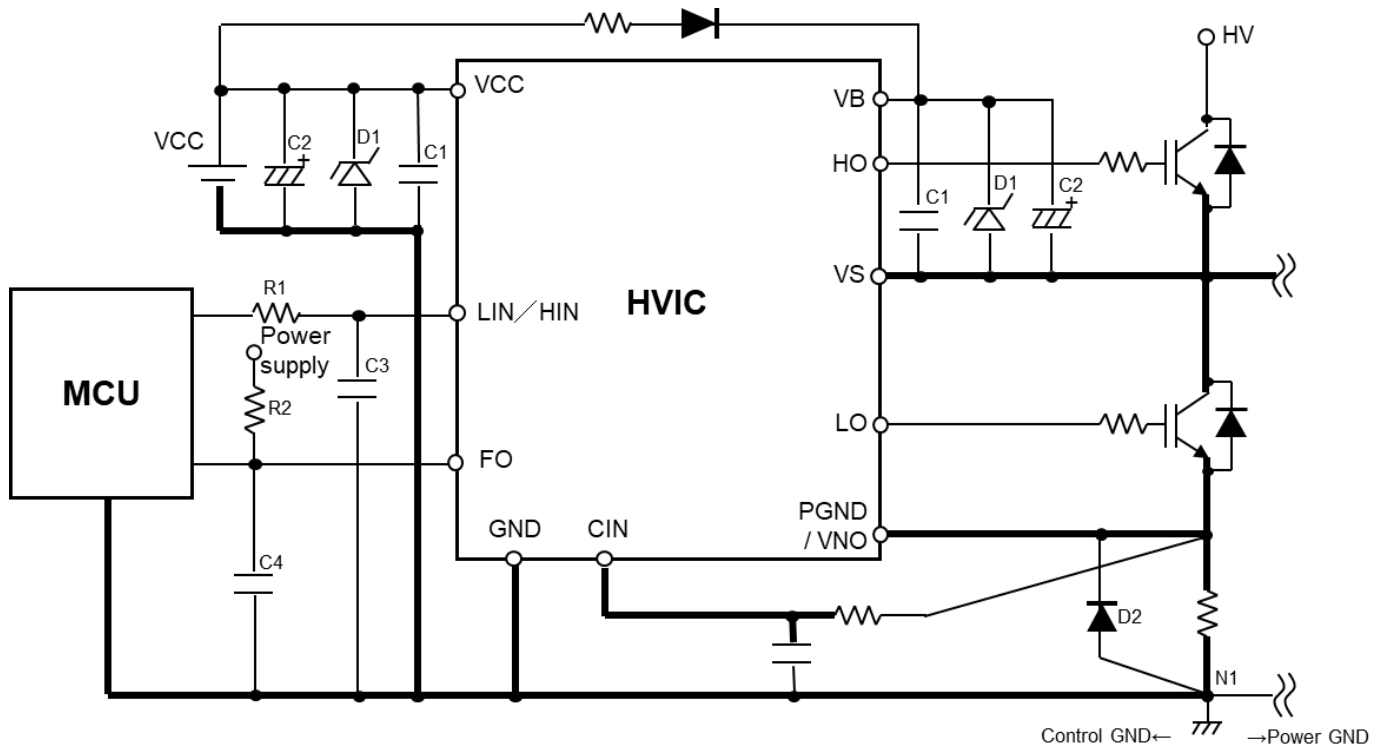

Fig.23 Attention points of circuit board using sense resistor method
- The bold line in Fig.23 has a large effect on the operation of HVIC and power semiconductor. Shorten and widen the bold line in Fig.23 to decrease a line impedance.